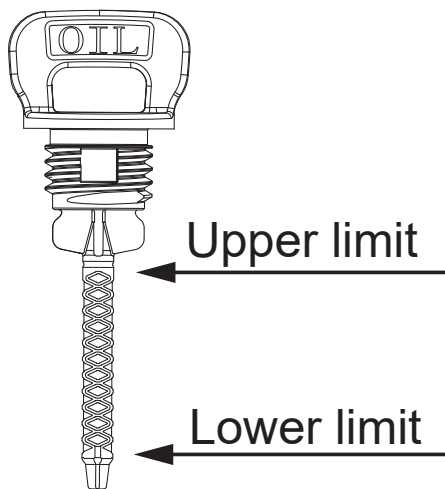
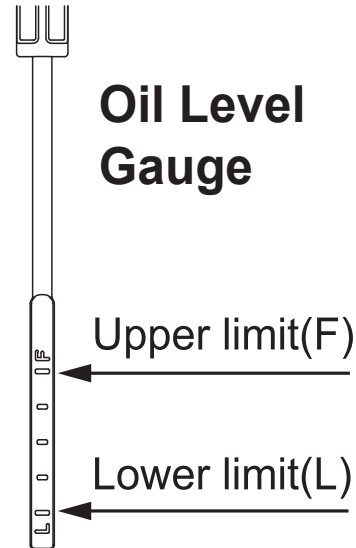

Figure 3-4: VNR460VEI Oil Level Gauge
Figure 3-5: VNR680/VNR750EFI Dipstick
5. (See **Figure 3-4: VNR460VEI Oil Level Gauge** and **Figure 3-5: VNR680/VNR750EFI Dipstick**.)